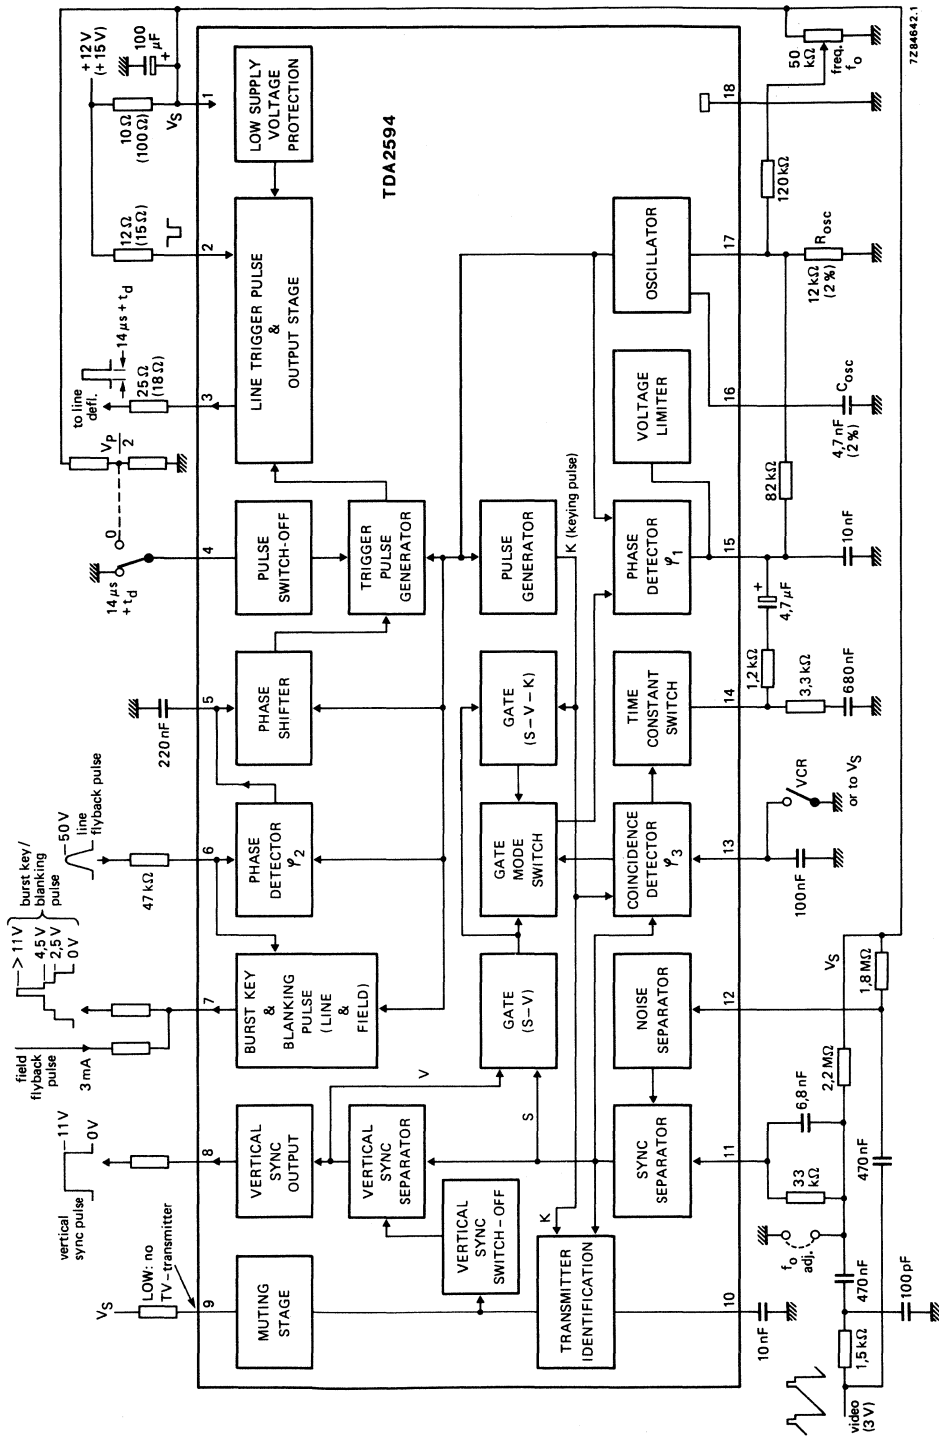

Fig. 1 Block diagram.
**CHARACTERISTICS** at  $V_{1-18} = 12$  V;  $T_{amb} = 25$  °C; measured in Fig. 1**Sync separator (pin 11)**